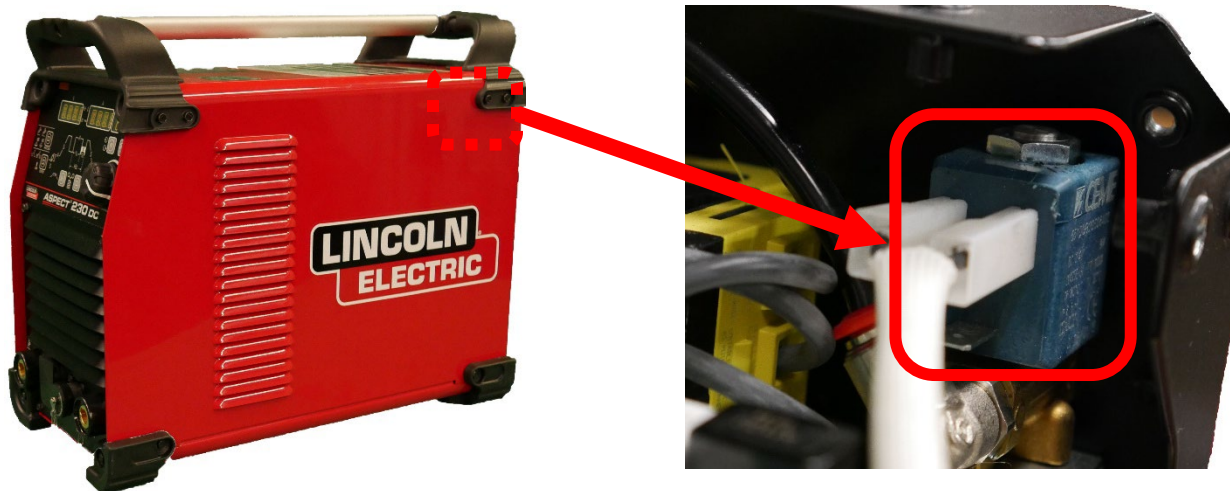

Figure F.1
1. For location of the Gas Solenoid refer to Figure F.1.